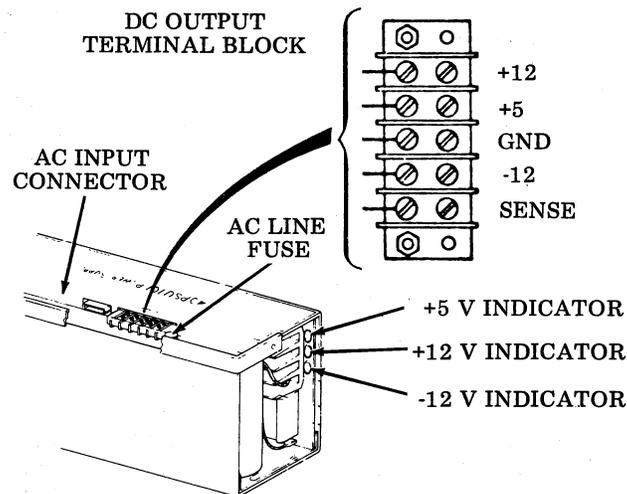

Fig. 4—40PSU101 Power Supply Features
2.02 The 40PSU101 power supply features a light emitting diode at the output of each regulator circuit. (See Fig. 4.) These diodes are clearly visible when the power supply is in its normal operating position within the DATA-SPEED 40 cabinetry. When these diodes are lit, it signifies that the power supply is on and the +5 V dc and +12 V dc circuits are active.
2.03 The 40PSU101 power supply ac input connector, dc output terminal block, and 5 ampere (SLO-BLO) ac line fuse are all located on top of the supply (Fig. 4). All dc voltages for the DATASPEED 40 logic are supplied from the output terminal block. The "Sense" terminal on the block permits the monitoring of the +5 V dc under actual load conditions.